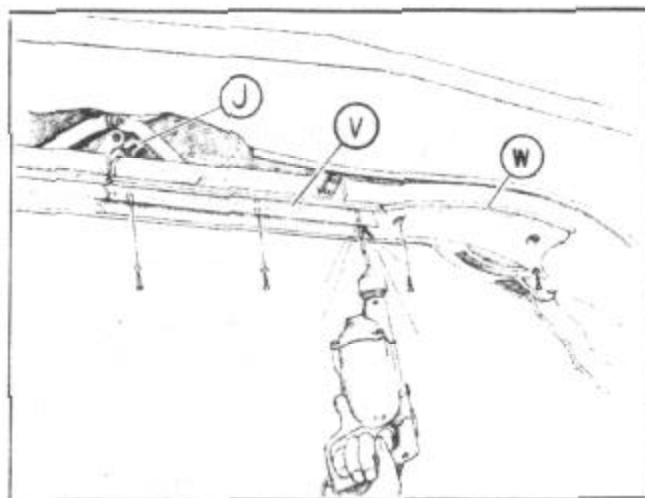

FIGURE 192.
2. Install the intermediate weatherstrip (V), Figure 192, first, secure front screw and check clearance between rear end of intermediate rubber with rear quarter window rubber. Trim rubbers so as to have smooth butt joints and install the two remaining screws.
**NOTE:** On the early 480 Models equipped with the cloth covered front and intermediate weatherstrips, it will be necessary to drill one 3/32" hole into the top side rail as shown in Figure 192.
9. Raise door windows fully and close door. Inspect weatherstrips to make certain that center sealing lip is in contact with the full length of the top window frame, and the inner sealing lip is turned inward and in full contact with the inner face of the top window frame. Adjust top upward or downward at adjusting screw (J), Figure 192, as necessary to assure an even seal at top of window at front header to front pillar. Be sure to tighten locknuts on adjusting screws after adjustments have been completed.